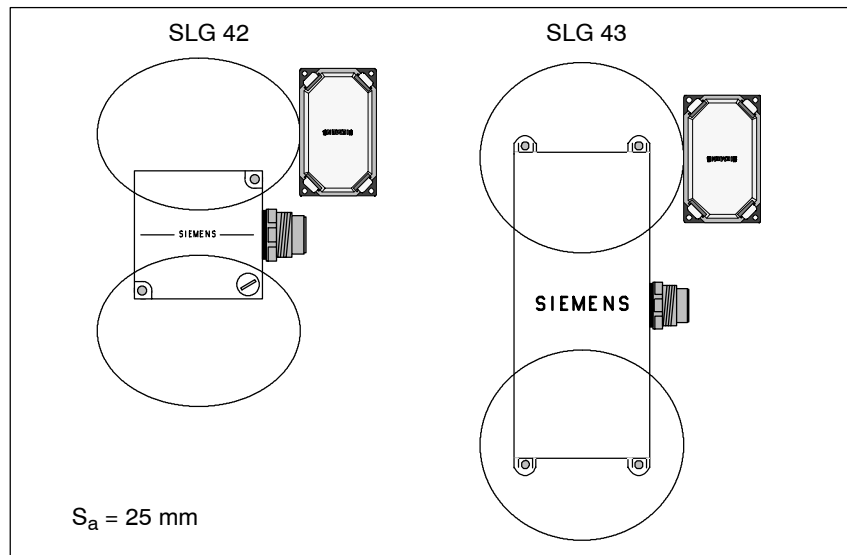

Figure 3-29 Transmission window of the MDS 507 with dead battery
- A dead dialog battery is **not** reported to the user when the MDS 507 is not positioned in the middle. Cf. figure 3-29.